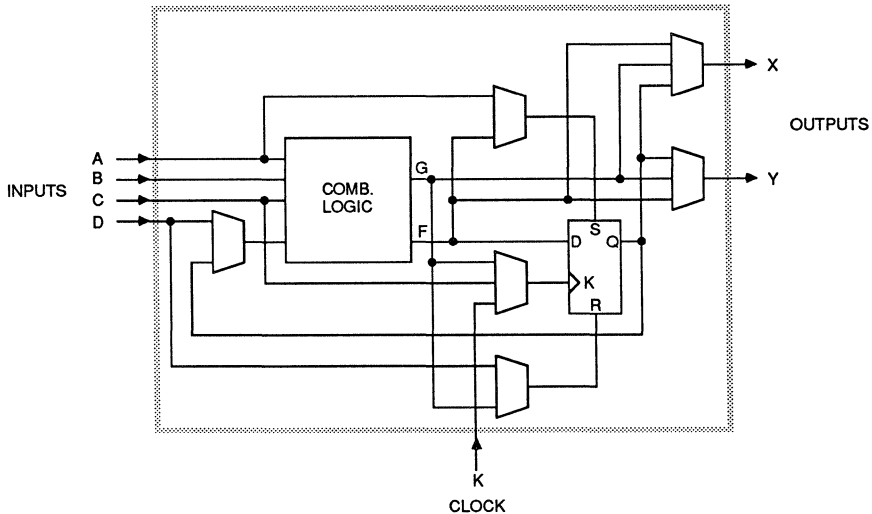

Figure 4. Configurable Logic Block
a combinational logic section, a storage element, and an internal routing and control section. Each CLB has four general-purpose inputs; A, B, C, and D; and a special clock input (K), which may be driven from the interconnect adjacent to the block. Each CLB also has two outputs, X and Y, which may drive interconnect networks. Figure 4 shows the resources of a Configurable Logic Block.
The two block outputs, X and Y, can be driven by either the combinatorial functions, F or G, or the storage element output Q (Figure 4). Selection of the outputs is completely interchangeable and may be made to optimize routing efficiencies of the networks interconnecting the logic blocks and I/O blocks.